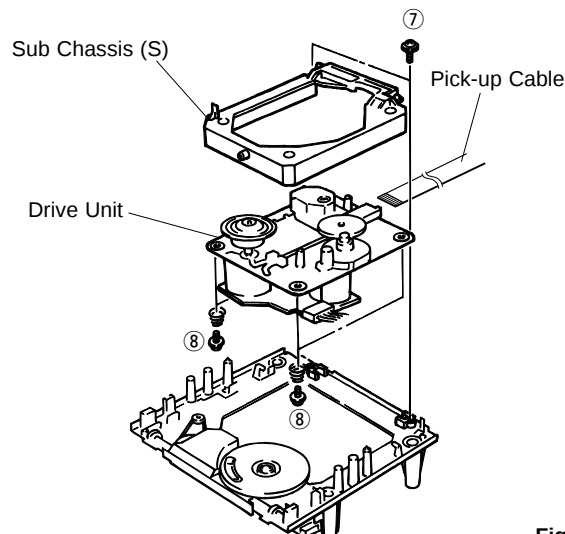

Fig. 4
- Remove 2 screws (⑦) in Fig. 4.
- Remove a pick-up cable in Fig. 4.
- Remove 4 screws (⑧) and then remove the Drive Unit in Fig. 4.